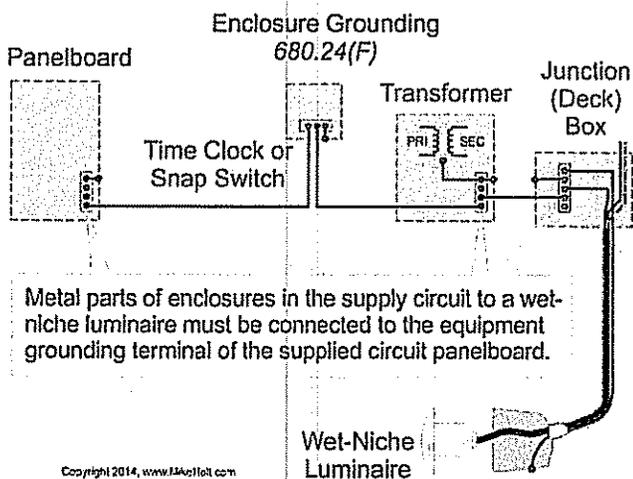

Figure 680-37
- (1) Equipped with threaded entries or a nonmetallic hub,
- (2) Constructed of copper, brass, or corrosion-resistant material approved by the authority having jurisdiction, and
- (4) Provided with electrical continuity between metal raceways and the grounding terminals of the enclosure.
**(C) Physical Protection.** Junction boxes for underwater pool, spa, or hot tub luminaires that are mounted above the grade of the surrounding finished walkway must not be located in the walkway unless afforded protection by being located under diving boards or adjacent to fixed structures.
**(D) Equipment Grounding Terminals.** The junction box for an underwater permanently installed pool, outdoor spa, or outdoor hot tub luminaire must be provided with at least one more grounding terminal than the number of raceway entries.
**(E) Strain Relief.** The termination of a flexible cord that supplies an underwater permanently installed pool, outdoor spa, or outdoor hot tub luminaire must be provided with a strain relief.
**(F) Grounding.** The metal parts of a junction box, transformer enclosure, or other enclosure in the supply circuit to a wet-niche luminaire must be connected to the equipment grounding terminal of the supplied circuit panelboard. Figure 680-37